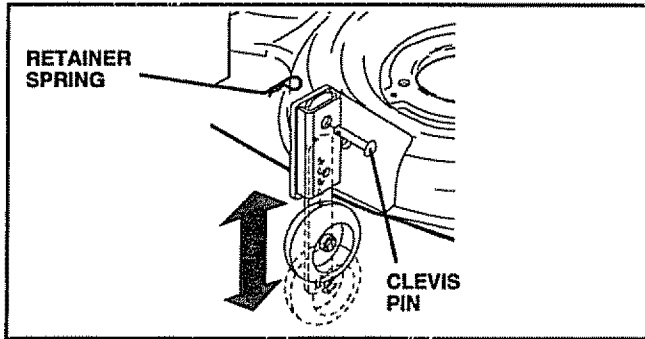

FIG. 8
TO ADJUST GAUGE WHEELS (See Fig. 8)
- Use the runner on the right hand side of mower as a guide. The blade cuts approximately an inch outside the runner (See Fig. 8).